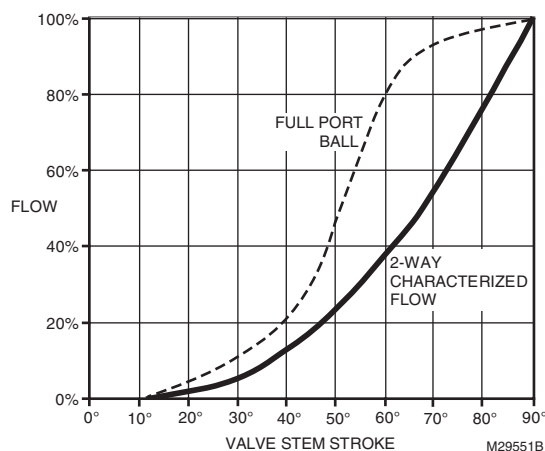

Fig. 40. Typical flow characteristics.
1. With modulating actuator, limit span of control voltage issued by the building automation controller. Valves with flow control inserts have an equal percentage flow characteristic (See Fig. 40). Each 10% reduction in maximum control voltage will result in a 10% reduction in flow.
2. To mechanically limit stroke, set DCA to full open position. Loosen shaft coupling and rotate valve shaft to desired maximum flow position, as confirmed by pressure measurement across coil, using coil manufacturer's data. Retighten shaft coupling. Use Fig. 40 as a guide to setting actuator stroke.